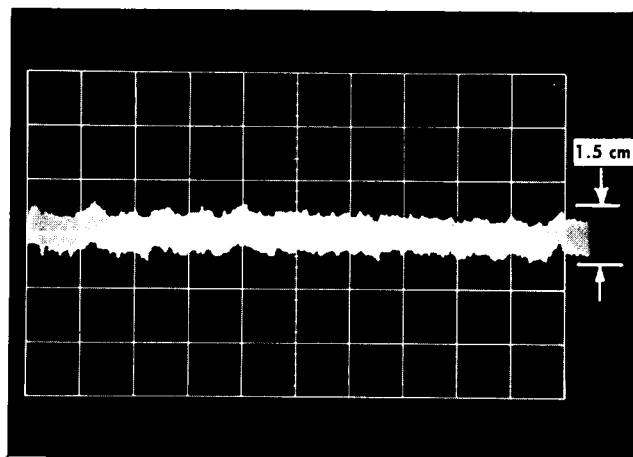

Fig. 6-15. Maximum random trace shift at 5 sec/cm, stored.
e. Check stored display for ≤ 1.5 centimeters peak to peak. See Fig. 6-15.